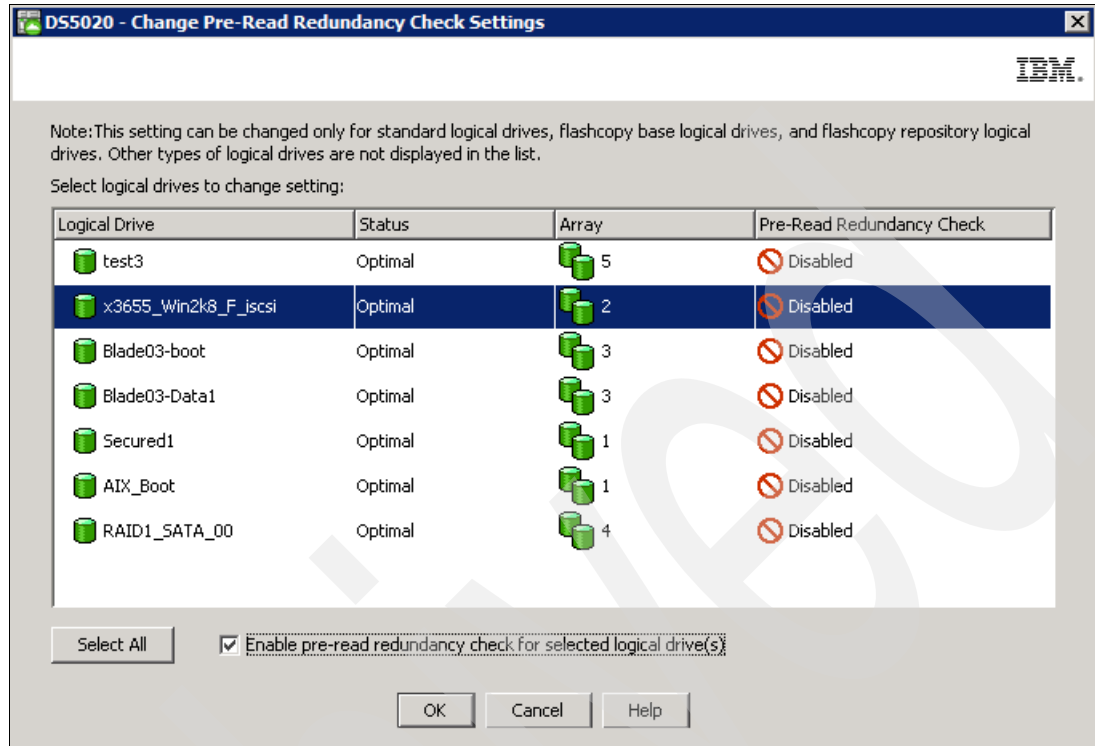

Figure 4-105 Enabling pre-read redundancy check
3. Make sure that the correct logical volume is selected, and click the lower box to enable the value, as shown in Figure 4-105.